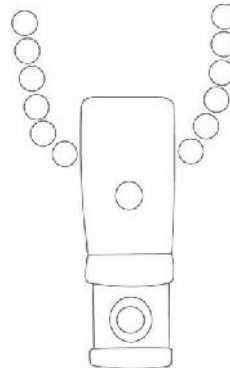

Figure 2
2. Install the tension device onto the reveal/frame, making sure that the loop chain hangs with minimal tension (Figure 2)